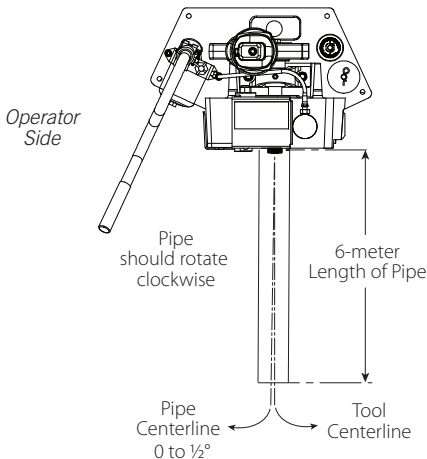

FIGURE 2: TRACKING ANGLE
8. Depress the safety foot switch. Verify that the lower roll rotates away from the operator when viewed from the front of the tool. (See Figure 2 on page 14 for more information.) If the lower roll rotates toward the operator, reverse the rotation collar as outlined in steps 9a and 9b that follow. Remove foot from the safety foot switch.